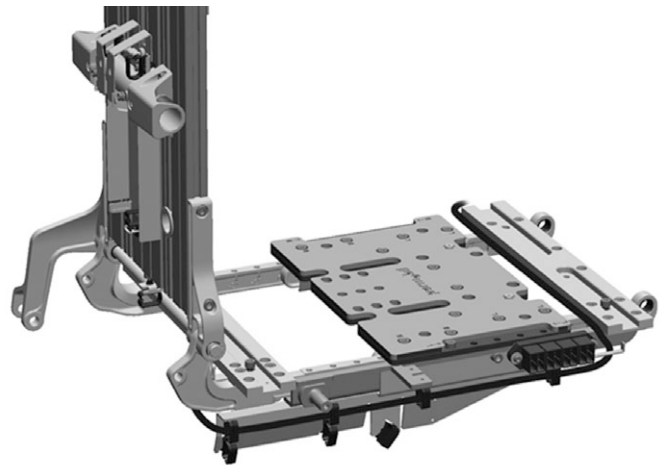

Figure 139. The cable is mounted in the four cable brackets on the right hand side of the seat.
2. The cable is mounted in the four cable brackets on the right hand side of the seat. See fig. 139.